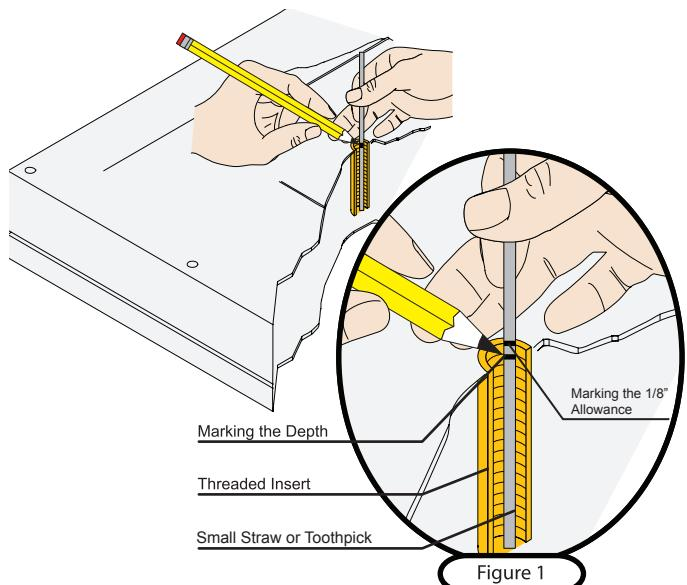

Figure 1
- 3 Mark the straw or toothpick $1/8"$ above the depth of the threaded insert, as shown in Figure 1.